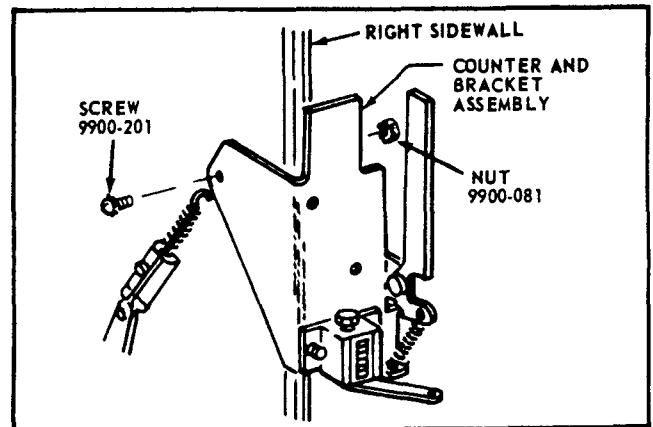

Figure 1.
4. Place the Counter And Bracket Assembly on the inner side of the Right Sidewall. The single slotted hole in the triangular shaped part of the Counter And Bracket Assembly is to be aligned with the hole from which the Screw was removed in step 3. See Figure 1.